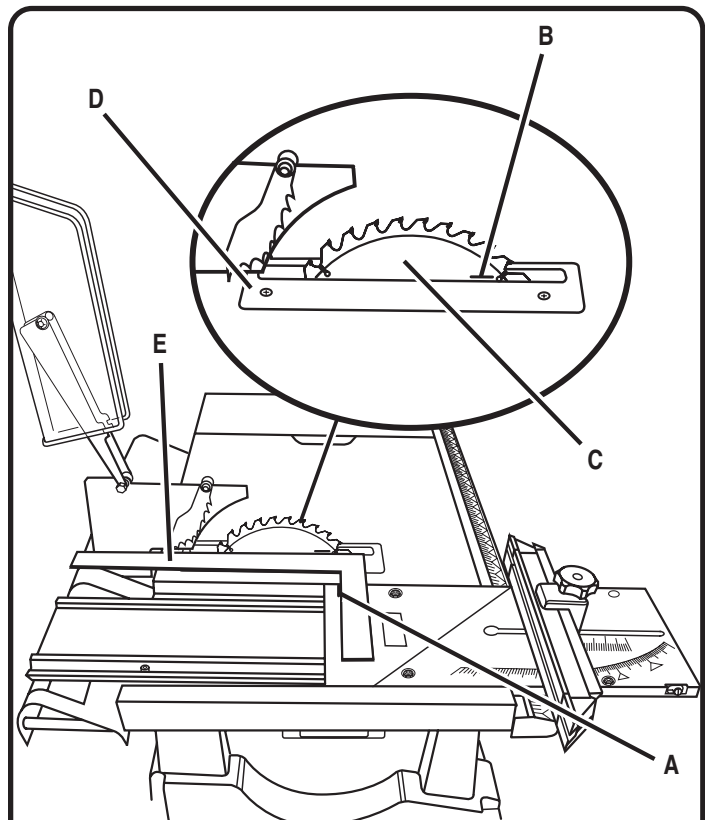

Fig. 41
- Slide miter table to the front of miter base as far as it will go. Place a reference mark (A) near the end of the miter table as shown in figure 41.